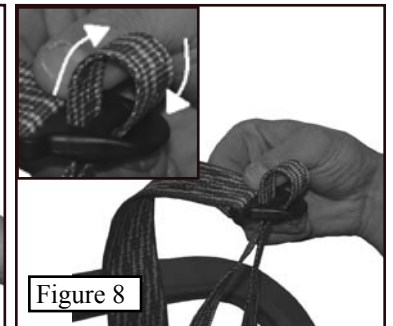
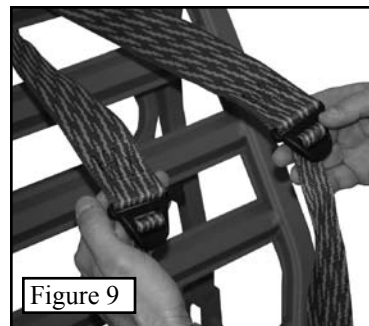

Figure 8
Figure 9
**Step 2.** Thread the loose end of each 1" strap through the buckle on the 2" strap as shown in **Figure 8**. The completed assembly should look like **Figure 9**.